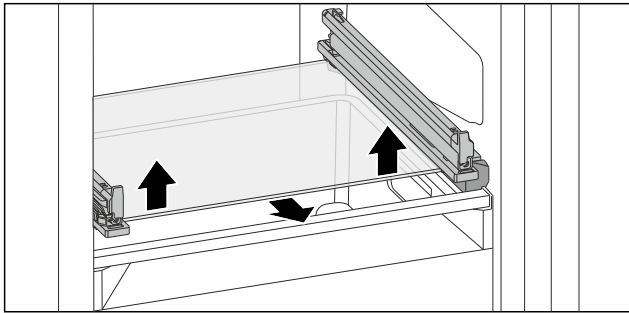

Fig. 202 Tilting drawer glass shelf
- ▶ Push glass shelf upwards from below on both sides. (see Fig. 202)